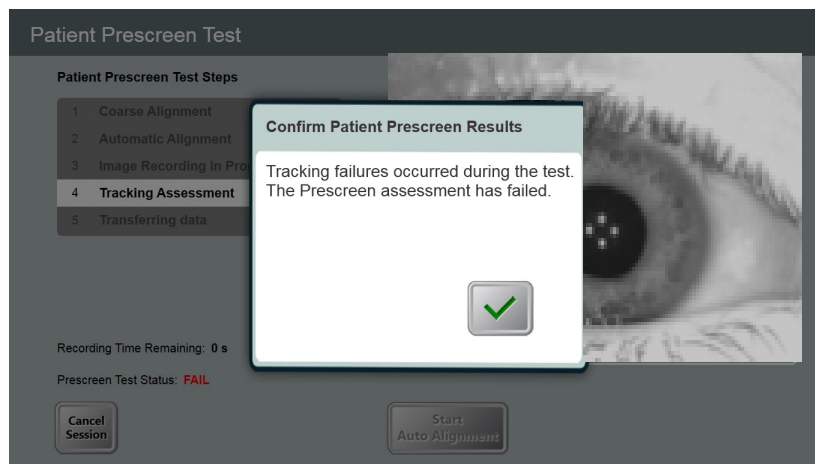

Figure 6-9. Failed Prescreen Assessment Due to Eye Tracking Errors
- If auto alignment succeeds but eye tracking failures are detected by the System during the image recording period, as shown in Figure 6-9, the prescreen has failed and the user should not proceed with the treatment.